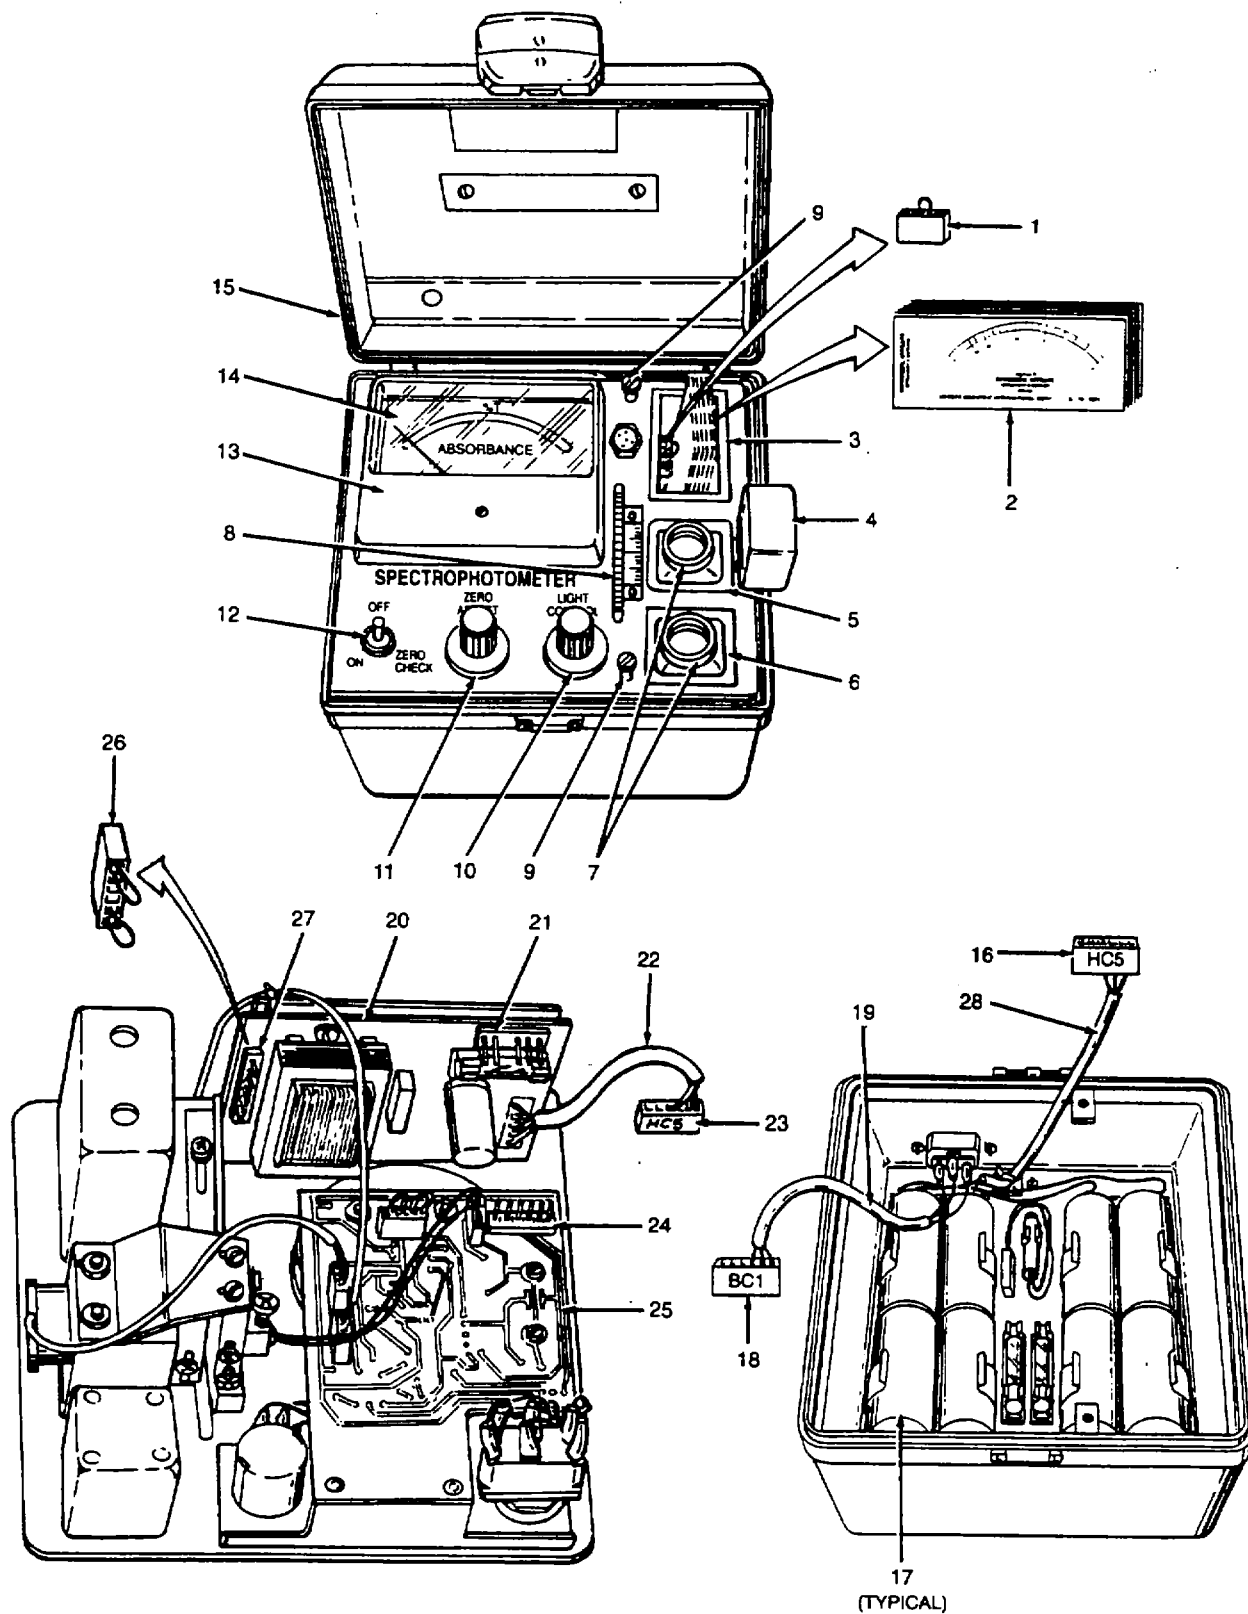
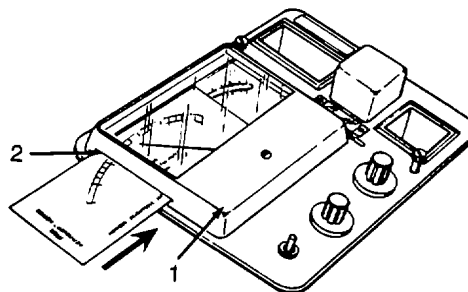

Figure 2-5. Spectrophotometer Features and Power Conversion.
Figure 2-6. Meter Scale Card Insertion.
In addition to the controls and indicators described in paragraph 2.1, the Spectrophotometer has several features that the operator must be familiar with to operate the instrument. They are discussed below (fig 2-5).
- a. Ac Power. 115 Vac or 220 Vac: Follow the steps below to set the unit for use with either 115 Vac or 220 Vac external power sources (fig. 2-5).
- (1) Unplug the power cord from the spectrophotometer and the external power source and open the case.
- (4) For ac power, connect the plug(18) on the internal ac power cable(19) to the power supply circuit board(20) at DC1(21).
- (5) A short (about 4 in. long) internal power cable(22) is permanently attached to the power supply board(20). It has a plastic plug marked HC5(23) at the opposite end. Connect this cable to the amplifier circuit board(25) at location BC5(24).
- (6) Change for 115 Vac or 220 Vac. The Spectrophotometer is supplied with two small, plastic, ac power-select plugs (line voltage plugs). One is stamped 115V(26) and has two wire loops. One is stamped 220V(1) and has one wire loop. One plug will be stored in the well(3) with the meter scale cards(2) and the other will be in place at BC4(27) on the power supply board(20). Insert the plug for the voltage to be used (115 Vac or 220 Vac) at BC4(27).
- (7) Check all connections to ensure they are complete and plugs are fully seated. Replace the front panel and attached electronics in the case. Fasten the thumb screws(9). Replace the sample cells(7) and meter scale cards(2).
- (8) Attach external power cord and plug the Spectrophotometer into the external power source.
- b. Battery Dc Power. Eight D-size dry cell batteries(17,fig. 2-5) are provided with the WQAS-PM. These are stored in the main case under the Zinc Test Kit. Follow the steps below to set up the unit for use with batteries.
- (2) Remove the sample cells(7) and meter scale cards(2). Set aside. Push the wavelength dial(8) as far forward as possible so that the indicator is below the lowest reading (400) on the wavelength scale(8).
- (3) Loosen the two captive thumb screws(9) on the front panel. Lift the front panel and attached electronics up and out of the case. Turn the front panel upside down and gently lay it on a clean flat surface.
- (4) Examine the ac power supply board(20) attached to the back of the Spectrophotometer panel. If the unit was previously set up for ac operation, an internal power cable(22) will connect the ac power supply board(20) to the amplifier board(25) at BC5(24). If this is the case unplug this cable(22).
- (5) The battery power cable(28) is connected to the bottom of the case. It has a plastic plug marked HC5(16) on the opposite end. For dc power, connect the plug marked HC5(16) at the end of the battery power cable(28) to the amplifier board(25) at location BC5(24).
(6) Install the eight D-size batteries(17, fig. 2-5) in the clips at the bottom of the case as shown in the illustration.
(7) Check all connections and batteries to ensure they are complete and fully seated. Replace the front panel and attached electronics in the case. Fasten the thumb screws(9). Replace the sample cells(7) and meter scale cards(2).
The Spectrophotometer includes two identical sets of eight meter scale cards(2, fig. 2-5 & fig. 2-1). Test procedures using the Spectrophotometer specify which meter scale card should be used for that test. The specified card is installed (fig. 2-6) by sliding it in the slot(2) at the left of the meter housing(1). Make sure the card is pushed as far to the right as it will go.
- b. To prolong bulb life and protect optical elements when not in use, set the light control(10, fig. 2-5) for approximately 20 on the %T meter scale(14). Set the wavelength dial(8) to 550 nm.
Before every test-the Spectrophotometer should be "zeroed." Follow these steps (fig. 2-5).
- a. Remove any meter scale cards(2) from the meter. The permanent scale(14) marked as "%T" at the top and "Absorbance" at the bottom should be visible. Make sure the light shield lid(4) over the sample cell well(5) is closed.
- b. Turn the unit on by pushing toggle switch (12) to ON position. Let it warm up for one minute.
- c. Push the on/off toggle switch(12) to the right to the ZERO CHECK position. Hold it there.
d. Turn the ZERO ADJUST knob(11) until the needle indicates 0.0 on the %T (percent transmittance) scale(14).
2.6.2.7. Using the Spectrophotometer (fig. 2-5).